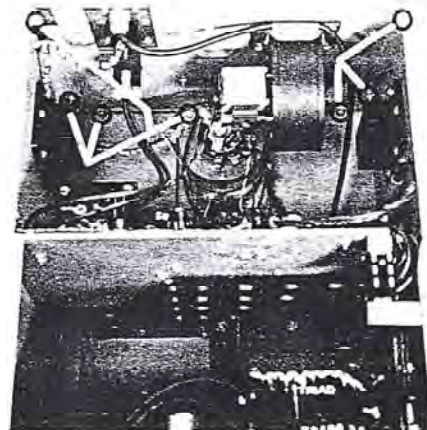

Figure 7. View of the Bottom of the 3K-A's RF Deck
- 5 Remove the seven screws and nuts holding the RF deck frame and cover to the power supply (see Figure 7). DO NOT LET THE WRAP AROUND SLIP DOWN ON TO THE POWER SWITCH. The cover should now be loose and ready to lift off.